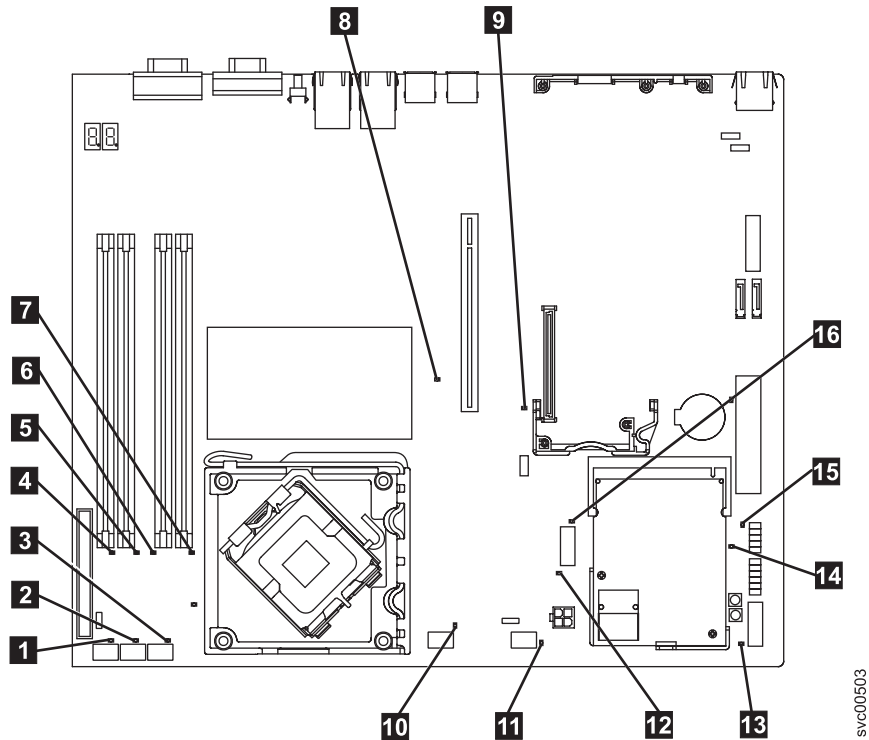

Figure 96. SAN Volume Controller 2145-8A4 system board LEDs
**YES** Identify any diagnostic LEDs on the system board that are on. Figure 96 shows the location of the system board LEDs. The fan LEDs are located adjacent to each fan. You can ignore the three LEDs that do not indicate an error: **13**, **14**, and **15**.